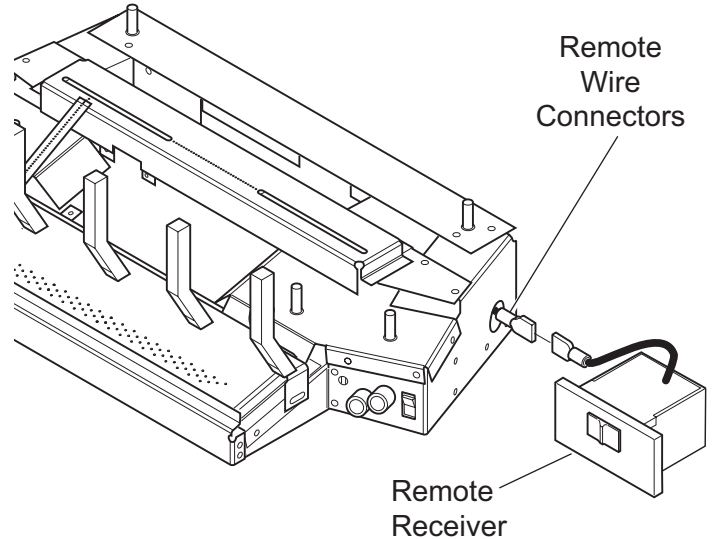

Figure 19 - Installing Remote Receiver
5. Connect the connectors to the two .25" male connectors located on the right side when facing the unit (*Figure 19*). Do not let the wire touch the grate or burners.
6. Stick velcro pads with self-adhesive backing to side of remote receiver and to the right side of the unit. See *Figure 19*.